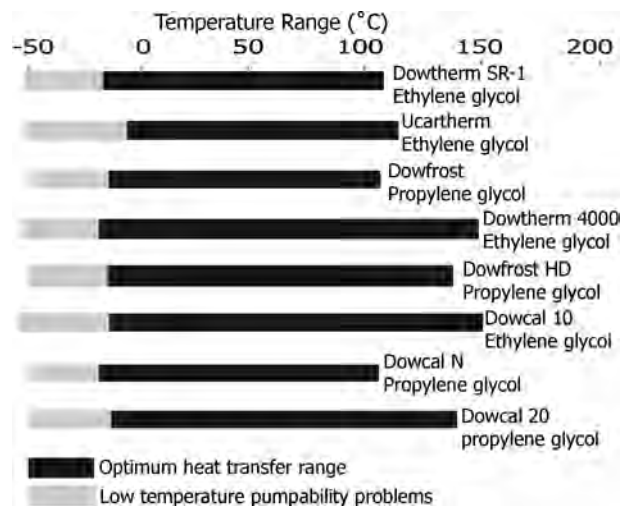

FIGURE 9.19 Dowtherm, Dowfrost, and Dowcal inhibited glycol-based heat transfer fluids.
- Dowtherm, Dowfrost, and Dowcal (See Figure 9.19).